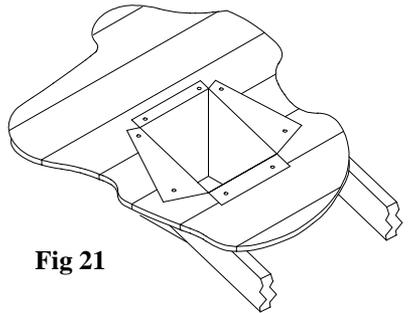

Fig 21
7. Using tin snips, cut the Support Box from the top corners down to the roof line, and fold the resulting flap over the roof sheathing. (Figure 21). Before nailing it to the roof, run a bead of non-hardening sealant around the outside top edges of the Support Box so as to make a seal between the box and the roof. Clean out any combustible material or debris from inside the Support Box.